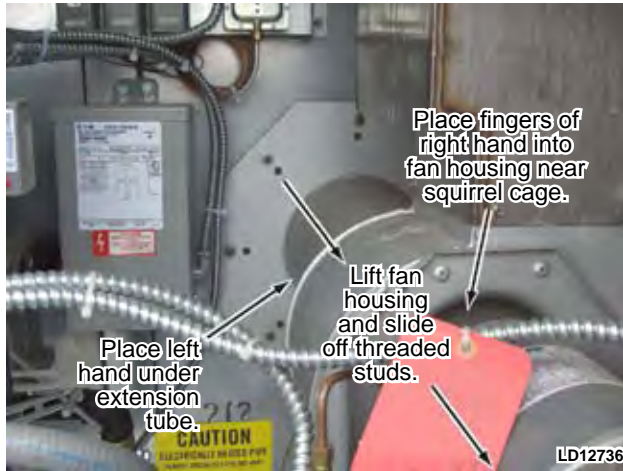

FIG. 5-131 – REMOVE ID FAN HOUSING FROM HEAT EXCHANGER
- Place your left hand under the extension tube between ID fan and flange. Place the fingers of your right hand into the ID fan housing near the squirrel cage fan. Lift and slide the ID fan housing from the threaded studs on the heat exchanger (see Fig 5-131).